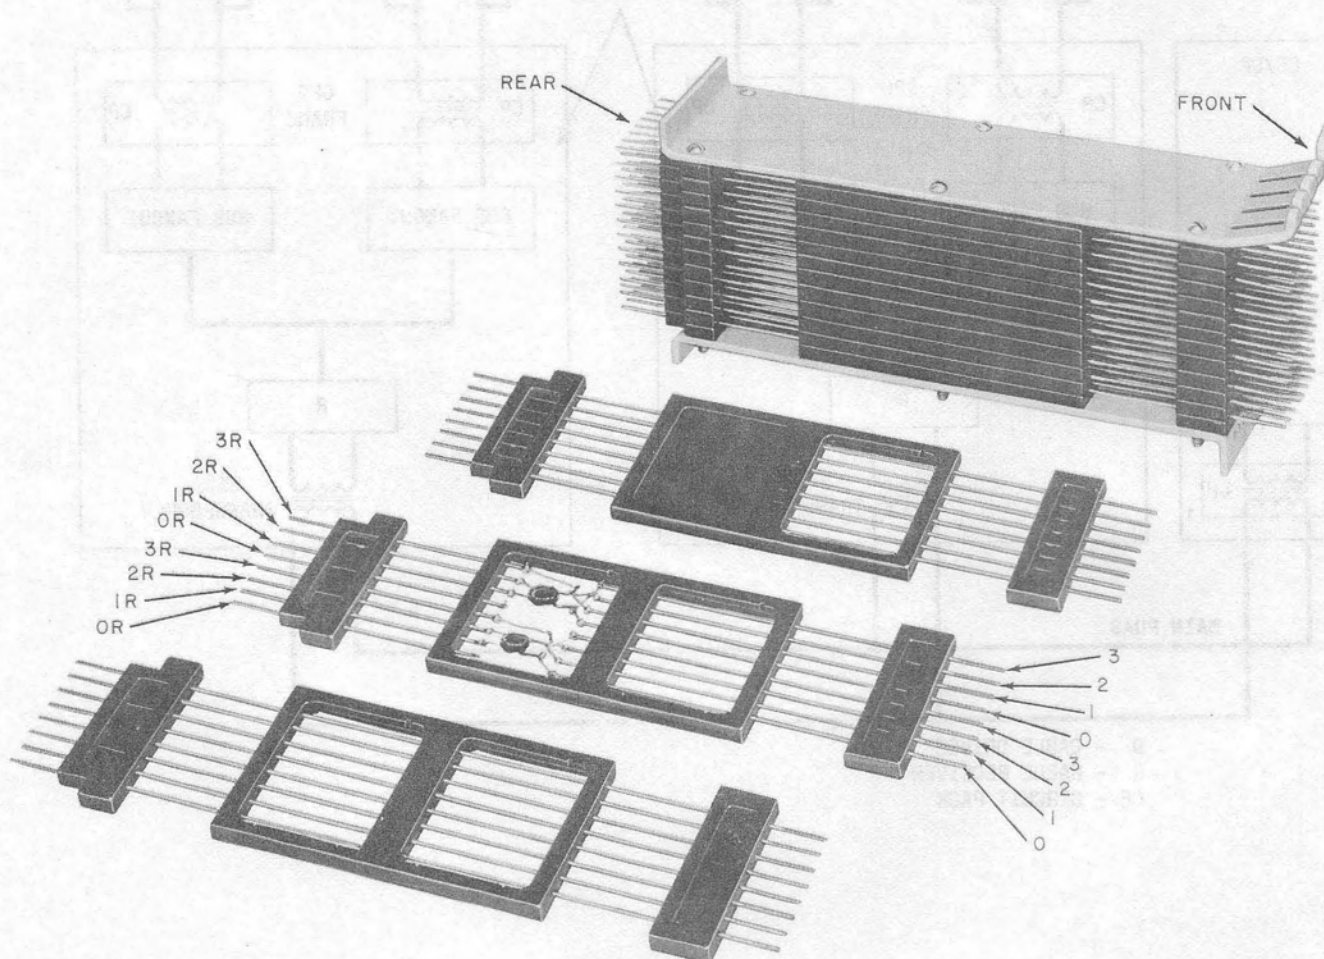
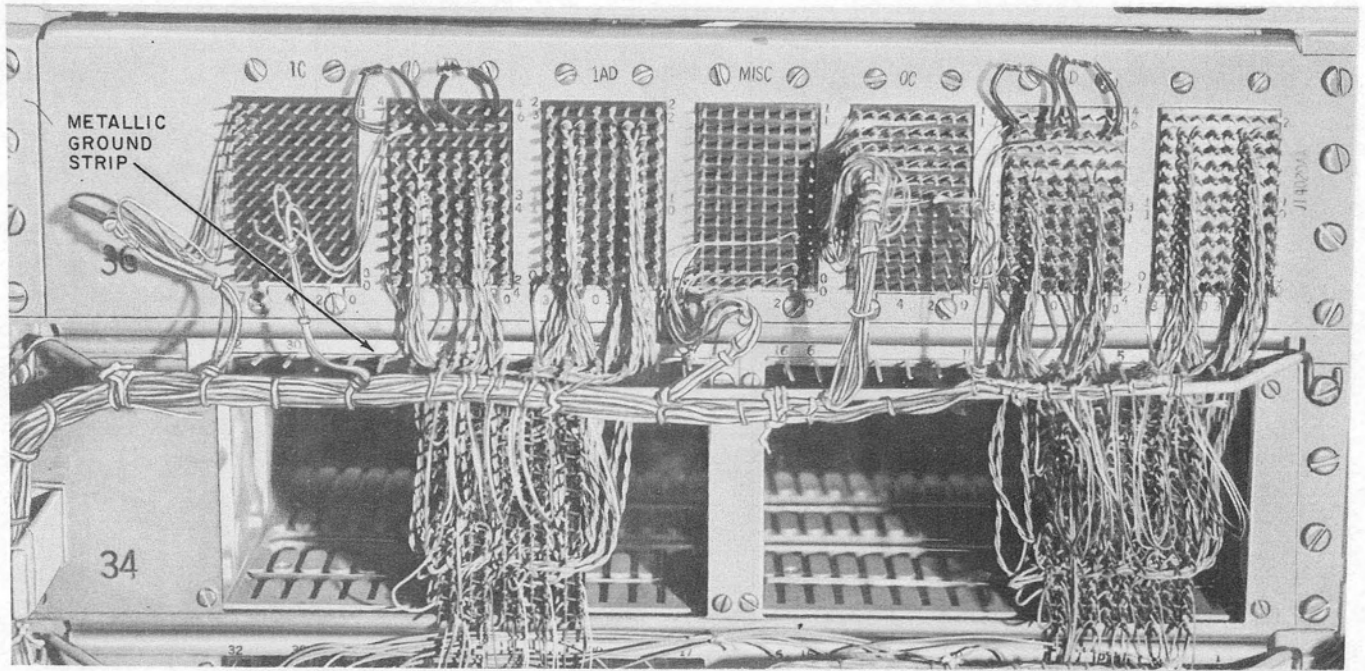
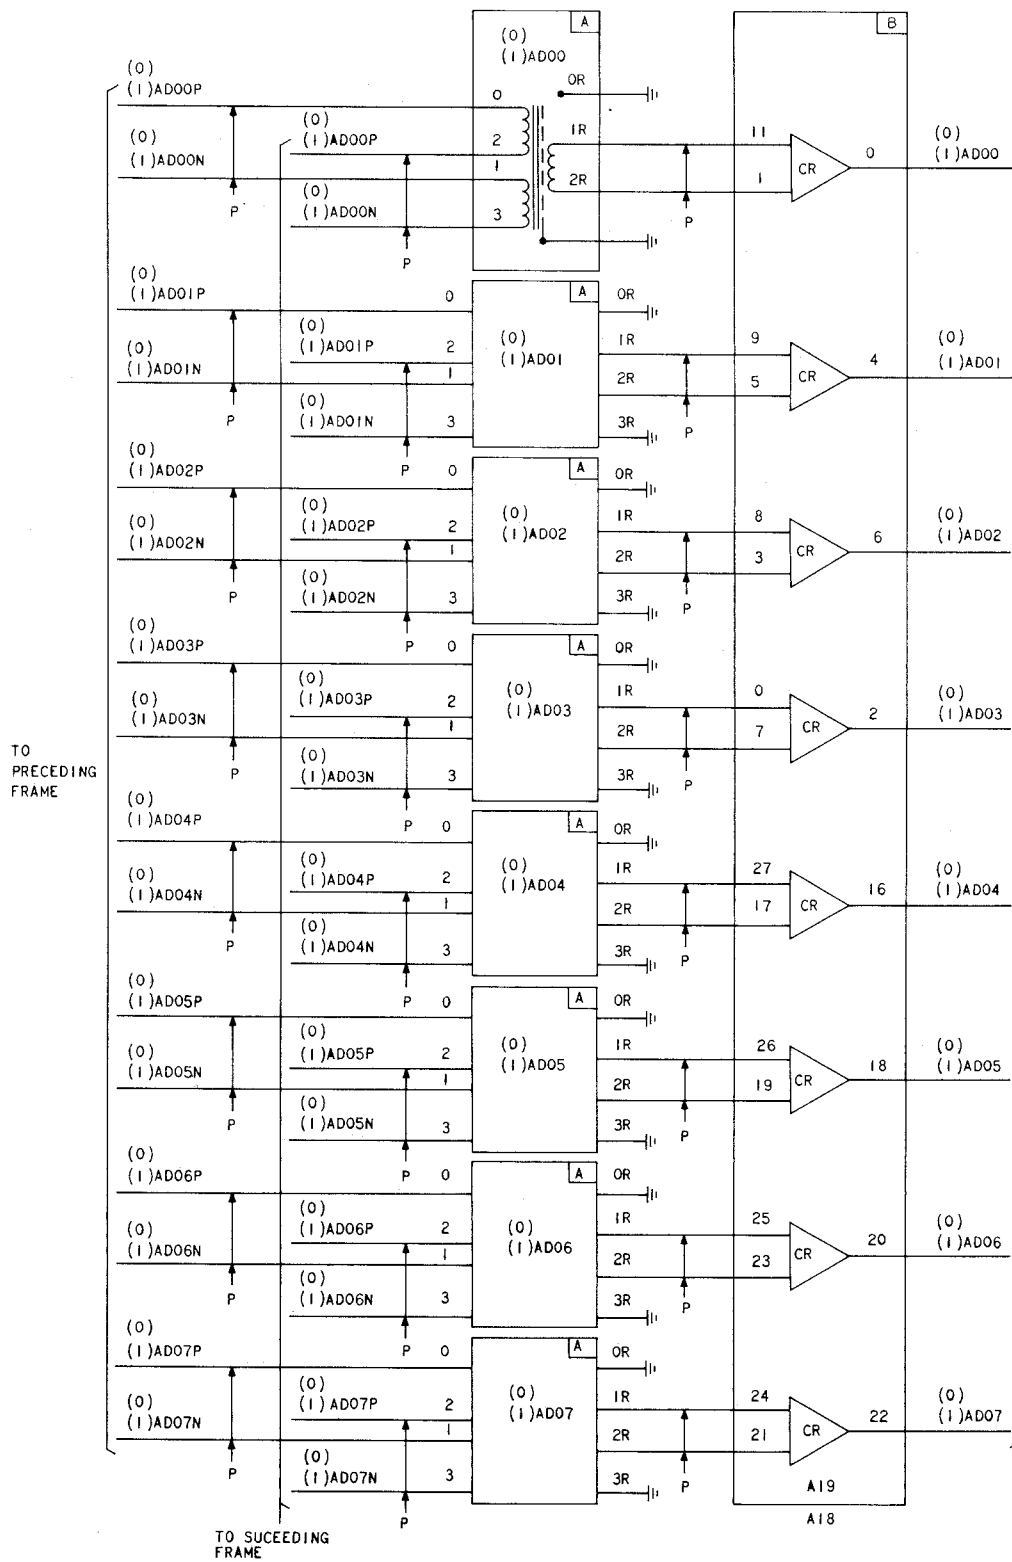

Fig. 2—Bus Transformer and Terminal Block Assembly
Fig. 3—Rear View of 2598-Type Transformer Installed
Fig. 4—Typical Connection for 2598-Type Transformer in Circuit
- (1) TAG all leads, front and rear, before removing leads.
- (2) Using the ♦KS-20827♦ tool, remove wiring from all 1R and 2R terminals located on the rear of the transformer stack (Fig. 2). Remove the wiring from terminals 0R and 3R at the single metallic ground point (Fig. 3).
- (3) Using the ♦KS-20827♦ tool, remove all wiring from front (equipment side) of transformer stack.
- (4) Using the 4-inch screwdriver, remove the four screws located at the rear of the
- (1) Place the transformer stack on the mounting plate from the front of the frame.
- (2) Using the 612 screw starter, install the 4 screws on the rear of the transformer stack.
- (3) Using new AWG 24 insulated wire and the KS-16363 wire wrapping tool, **replace** the paired wiring between all 1R and 2R terminals and the A18 or A19 cable receiver input terminals 24,21;25,23;26,19;27,17;10,7;8,3;9,5; and 11,1 (Fig. 4).
- (4) Multiple wire all OR terminals together and connect to nearest metallic ground strip (Fig. 2).
- (5) Multiple wire all 3R terminals together and connect to nearest metallic ground strip (Fig. 3).
- (6) On front (equipment side) reconnect P and N leads from preceding frame or BTR leads to terminals 0 and 1, respectively (Fig. 4).
- (7) Reconnect P and N leads from succeeding frame or BTR to terminals 2 and 3, respectively (Fig. 4).
- (1) Select a spare 2598 transformer in the same bus transformer stack. Use the spare transformer to replace the defective transformer. The wiring from the substitute transformer to the cable receiver (A18 or A19 pack) should **not** exceed the present 18 inch maximum requirement. Insure all paired wiring is twisted.
- (2) If a spare transformer is not available, follow the procedure described in paragraph 3.03. If a spare transformer is available, perform steps (3) through (9).
- (3) TAG leads front and rear of defective transformer (Fig. 2).
- (4) Using the  $\blacklozenge$ KS-20827 $\blacklozenge$  tool, remove wiring from terminals 1R and 2R located on the rear of the defective 2598 transformer (Fig. 2).
- (5) Using the  $\blacklozenge$ KS-20827 $\blacklozenge$  tool, remove wiring from terminals 0, 1, 2, and 3 on the front (equipment side) of the defective transformer.
- (6) Using new AWG 24 insulated wire and KS-16363 wire wrapping tool, **replace** the paired wire between transformer terminals 1R, 2R, and the input terminals on cable receivers A18 or A19.
- (7) Connect terminal 0R to the 0R multiple and 3R terminal to the 3R multiple, if they are not already connected.
(8) Reconnect P and N leads from the preceding frame or BTR to terminals 0 and 1, respectively (Fig. 4).
(9) Reconnect P and N leads from succeeding frame or BTR to terminals 2 and 3, respectively.